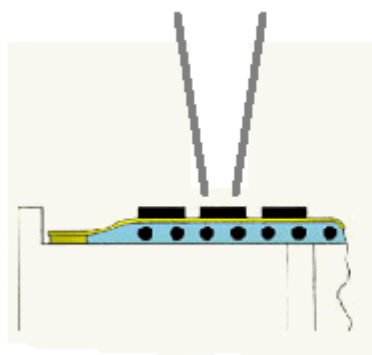
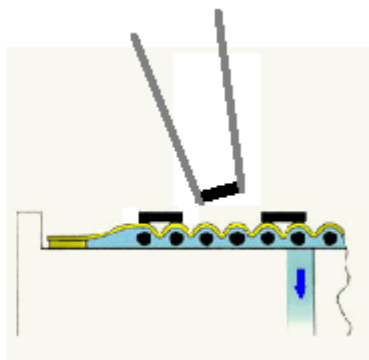

Figure 1.
Figure 2.
Each Carbon Nanotube (CNT) Array is packaged in a Vacuum Release™ (VR) Tray. The VR Tray holds the array securely in place during shipping or handling, offering the ability to release the array on demand. The proprietary Vacuum Release process relies on changing the surface contact area between the array and the Gel membrane on the tray surface. In Retention Mode (see Figure 1), the surface contact is maximized and the array is held firmly in place. In Release Mode (see Figure 2), the surface contact is minimized by applying a vacuum to draw the Gel membrane away from the array. The array can then be easily removed in the vertical direction using a vacuum tool or tweezers.
Figures 1 and 2.